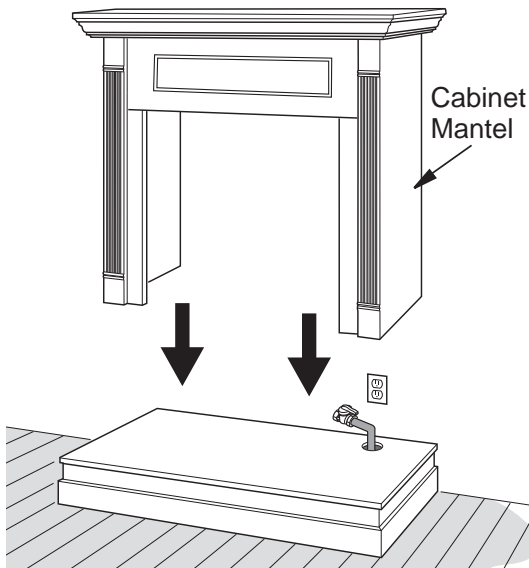

Figure 10 - Installing Cabinet Mantel
6. Center cabinet mantel on hearth base (see **Figure 10, Page 12**). Make sure mantel is flush against wall.